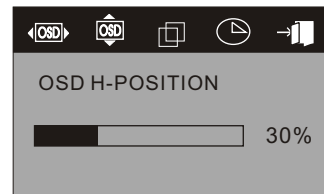
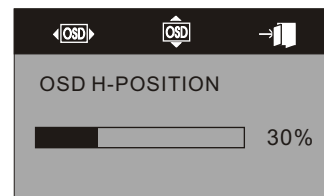

Fig.12 VGA
Fig.13 DVI
4. Position of OSD menu(  ): When you select the item, you can adjust H-position and V-position of OSD menu and transparency [as Fig.12:VGA、 Fig.13:DVI].